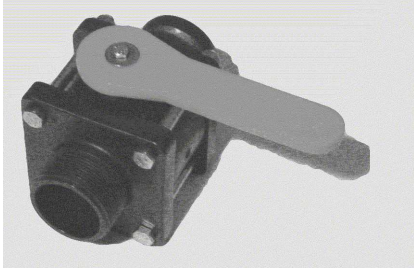
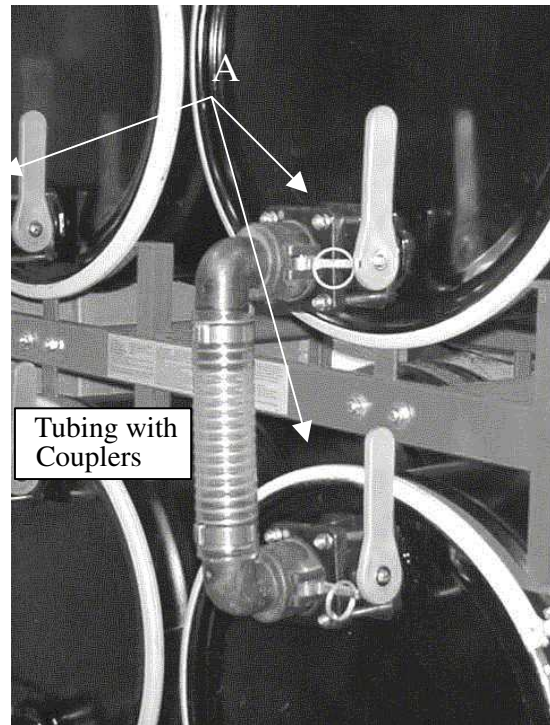

Figure 7. Polypropylene Ball Valve
Figure 9. 2" Tubing Between Barrels
2. Install a Polypropylene Ball Valve 2"X2"QC (A) (see Table 1. Recommended Parts or Equivalent, Figure 9 and Figure 7) at the bottom of each drum to be placed on top of the barrel stand.
3. Install a Polypropylene Ball Valve 2"X2"QC (A) (see Figure 9) at the top port of the drums to be placed on the bottom of the barrel stand.
7. Install a 2" Tubing w/90° quick coupler (see Table 1. between each top and bottom barrel as shown in Figure 9.